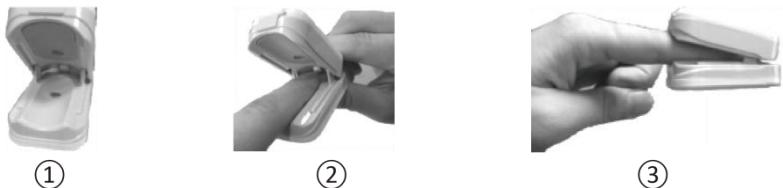

Figure 5: measurement
- 1) Open the clip of PULSE OXIMETER, See figure 5.①.
Ensure the finger position is correct that the LED (irradiancy) window against finger prominence and the accepting window against finger lunula), see figure 5.②, and then clip the finger, see figure 5.③.